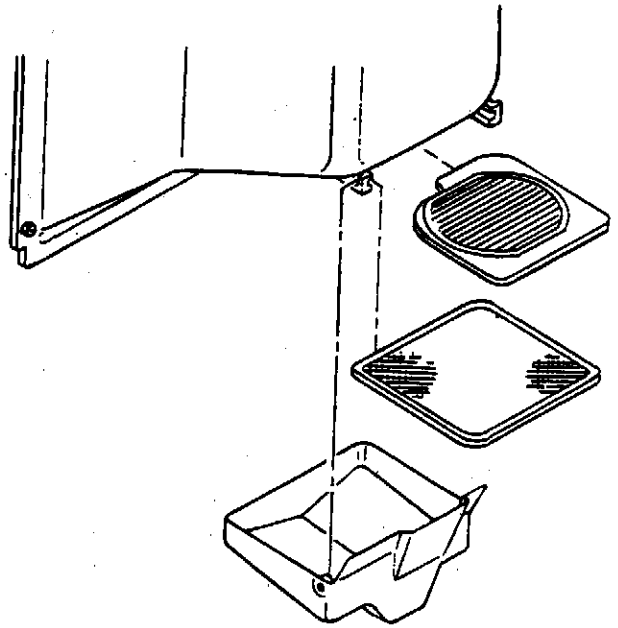

FIGURE 4
9. Slide the cupwell mesh and grill in side rails and install the drip tray in the mounting slots (Fig. 4).